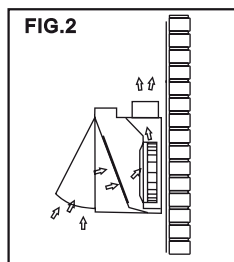

FIG.2
2. The Re-circulation Mode (Fig.2)